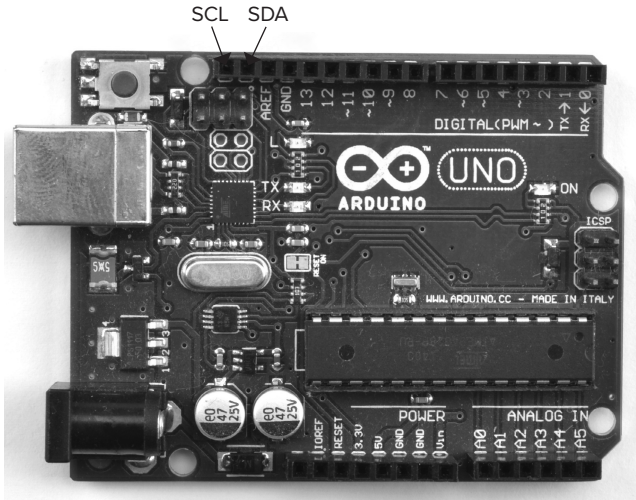

Figure 9-5 Identifying the SCL and SDA pins of an Arduino Uno.
- SCL on the display to the SCL pin of the Arduino. These are labelled on the underside of an Arduino Uno and are also indicated in Figure 9-5
- SDA on the display to the SDA pin of the Arduino (also see Figure 9-5)